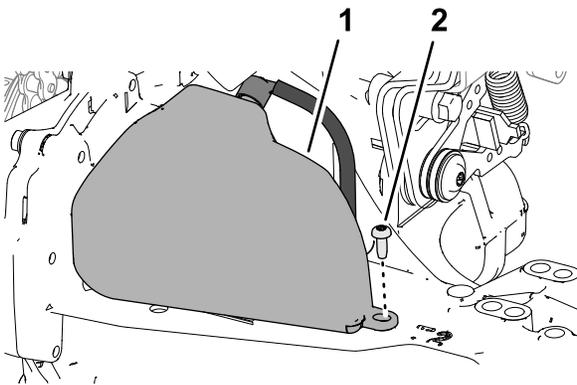

Figure 58
2. Remove and retain the screw (#10 x 1/2 inch) and release the ratchet fastener that secure the expansion tank to the housing (Figure 58).